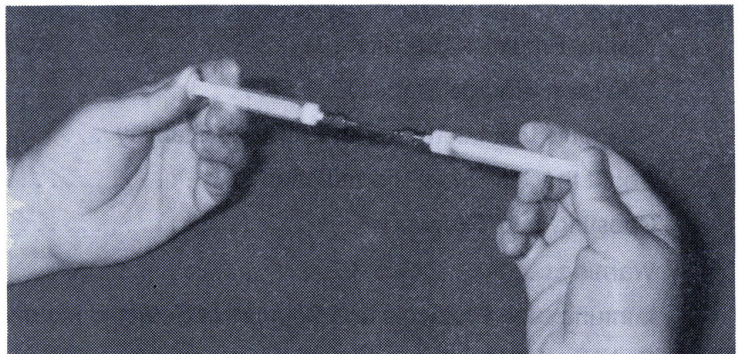

Figure 1: One ml of a 50:50 water-in-oil emulsion being prepared using a double hub emulsification needle and two all-plastic syringes.
2. Connect the two syringes via an 18 gauge double hub emulsifying needle (Figure 1). Mix the **TiterMax®** with the antigen by forcing the materials back and forth through the needle for approximately 1 minute. **NOTE:** It is important to push the antigen into the **TiterMax®** syringe first, so that the aqueous phase enters the oil phase rather than vice versa. Hold the syringes carefully so that they do not come apart from the double hub needle during emulsification. The formation of a water-in-oil emulsion is signaled by a sudden increase in viscosity, (i.e., more force is required to move the material through the needle). **NOTE:** After approximately 1 minute a whipped-cream-like water-in-oil emulsion forms. Push all of the emulsion into one syringe and disconnect the empty syringe.